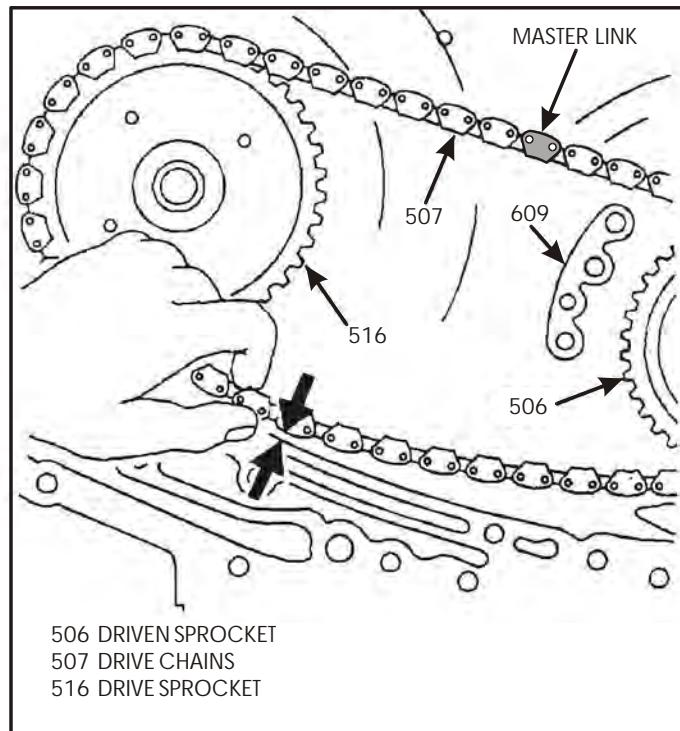

Figure 66
- B. Pull the drive chain toward the case at the location indicated in Figure 66.
- C. Measure the distance between the case and the drive chain, as shown in Figure 66. If the distance is more than  $1/8"$ , the drive chain should be reused.
- If the distance is less than  $1/8"$ , replace the drive chain. Refer to Figure 66.